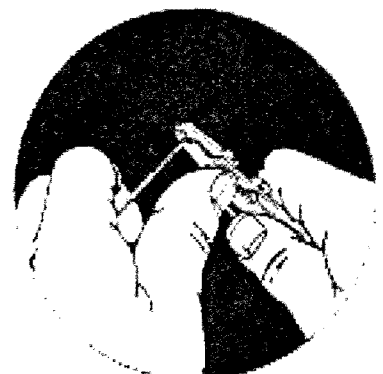

Fig. 3
Step 3. (Fig. 3) Draw the tool along the fiber using thumb pressure while keeping the tool perpendicular to the fiber